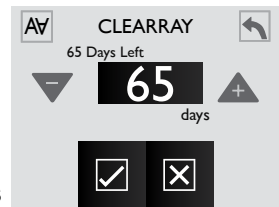

Figure 12.6c
The CLEARRAY UV bulb has a life expectancy of 1 year. A timer activates when power is applied and begins a countdown starting at 365 days. Once the timer expires, an error message will appear on the display, the UV bulb must be replaced and the timer needs to be reset. Tap CLEARRAY 65 (Figure 12.6c) to enter the Programming Menu.
1. From the “Water Care” Menu you can to set the CLEARRAY UV bulb timer, Figure 12.6c.